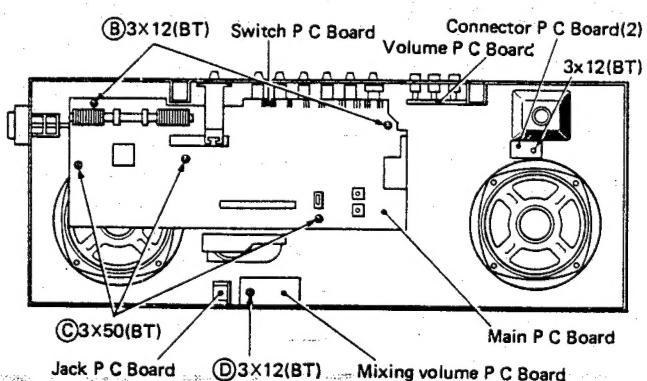

Fig. 5
## 3. Main and Switch PC Board removal (Fig. 5)
- 2) Remove 5 main PC Board fixing screw (B), (C) shown in Fig. 5.
## 4. Volume PC Board removal (Fig. 5)
## 5. Mixing volume PC Board removal (Fig. 5)
- 2) The mixing volume PC Board can be removed by removing the fixing screw (D) shown in Fig. 5
## 6. Jack PC Board removal (Fig. 5)